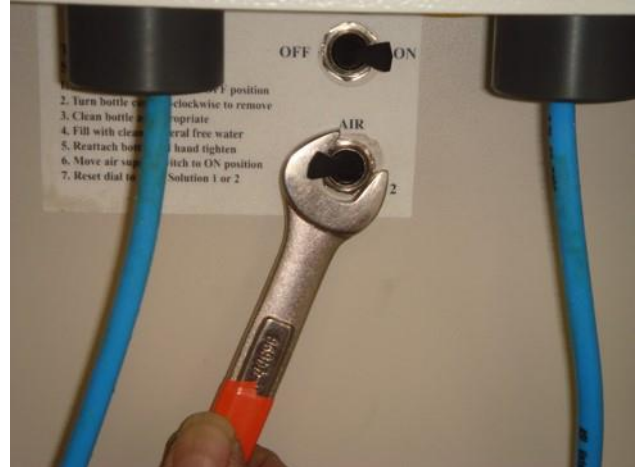

Fig. 9
16. While holding the backside of the valve, use a 9/16" wrench to remove the locking nut while holding the routing valve in place. (Fig. 9) Pull the valve out from the inside of the cart.